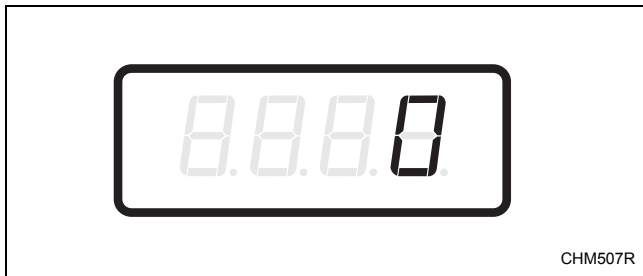

Figure 16
2. When “SA12” appears in the display, press the START (enter) keypad. There are five digits in the Special Vend A Vend Price #2. The fifth digit will appear in the display and will flash one second on and one second off. Refer to *Figure 16*.